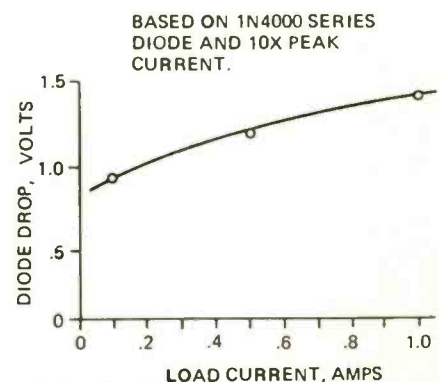

FIG. 2—VOLTAGE DROP ACROSS SILICON DIODE can be approximated from this chart if you do not have data on your diode.
The accurate way to find the voltage drop is to use a data sheet for the particular diode you are using and calculating the actual conduction angle, which is a pain. Figure 2 gives you a curve that is exactly valid for a 1N4000 series diode and a conduction time of 1/10 a complete cycle. This is close enough so long as you are using any reasonable silicon power diode. From Fig. 2, we see that the drop will be around a volt for lower currents; let's use this fig-
4. Subtract the diode drop, estimated from Fig. 2, or subtract 1 volt for lower current operation.